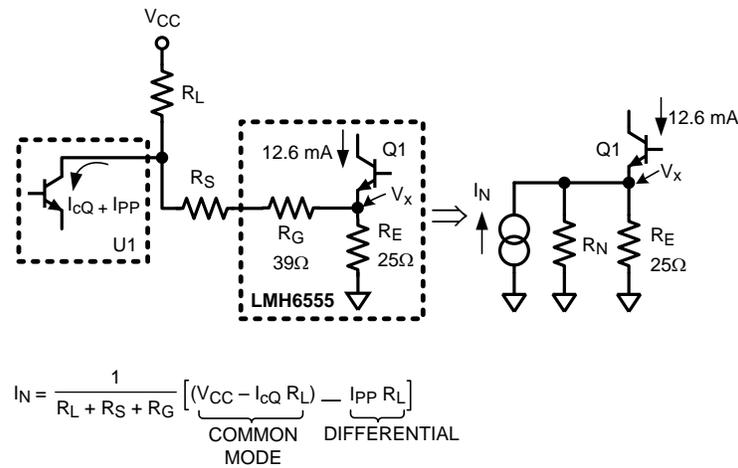

Figure 35. Norton Equivalent of the Input Circuitry Tied to Q1 within the LMH6555 in Figure 34
- b. Find the value of R_S to get the proper swing at the output (800 mV_{PP}). To do so, convert the input stage into its Norton equivalent as shown in Figure 35
The “ V_x ” node voltage within the LMH6555 (see Figure 35) would need to be calculated. Use the Common Mode component of the Norton equivalent source from above, and write the KCL at the V_x node as follows: